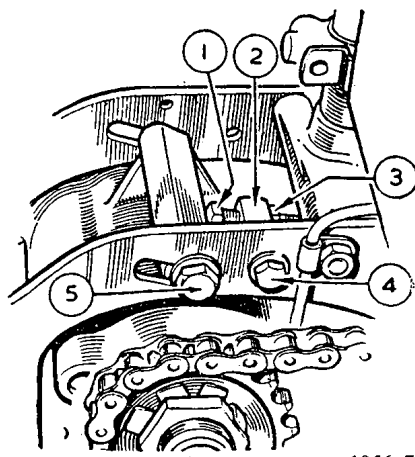

FIG. 68. PRIMARY CHAIN ADJUSTMENT ON 1956-7 MODELS
Primary Chain Adjustment (1956-7). On all 1956-7 models a snap-on cover between the rear engine-plates gives instant access to a redesigned adjustment. Referring to Fig. 68, if a primary chain adjustment is called for, first loosen the nut on bolt (5) and slacken lock-nut (3). Now screw the adjuster bolt (1) into the crosshead (2) to take up primary-chain slackness. Then pull on the secondary chain to move the Burman gearbox and tighten the primary chain until it is correctly tensioned (1/8 in. whip), as checked with the fingers through the inspection-cap hole on the oil-bath chain case. If the chain is over tightened, screw the adjuster bolt (1) out of the crosshead.